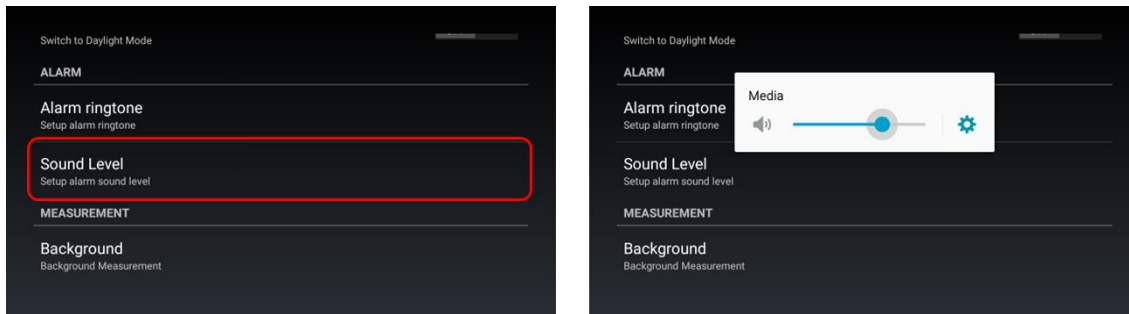

Figure 5.8. Select sound level
The sound volume of the alarm can also be adjusted, as shown in Figure 5.8 below.
1. Select 'Sound level' (figure 5.8)